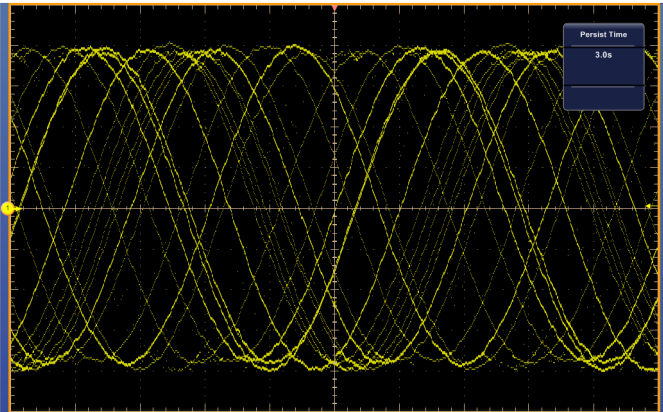

Figure 45: Clock recovery
- e. Verify that lock is acquired. (See Figure 45: Clock recovery on page 280.)